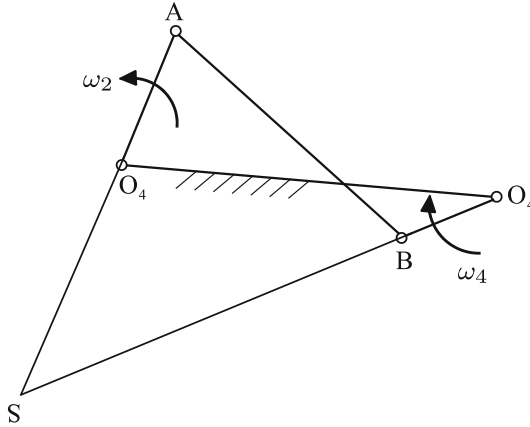

Fig. 2.38 A four-bar mechanism for velocity analysis
2. In the formed four-bar mechanism in Fig. 2.38, if the point S is assumed to belong to the AB interface, the velocity value of this point relative to the O_4B interface is equal to